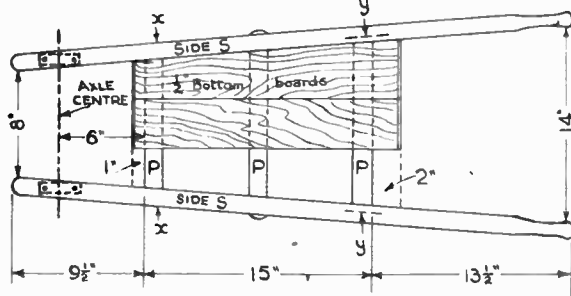
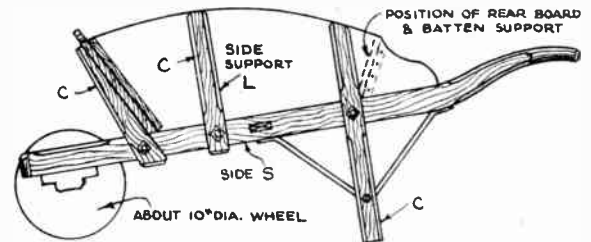

Fig. 1
Fig. 3
Fig. 1 is a plan of the bed of the wheelbarrow. Two sides (S) are cut from 1½ in. thick hardwood (ash preferably) 2 ins. deep and 38 ins. long. Note the curved handles (Fig. 3) which will need to be cut out with a coping saw, or better, a power bandsaw.
Before assembling the framework, round up the handles with a small spokeshave, file and glasspaper, and work the decorative chamfering as required. See Figs. 3 and 4